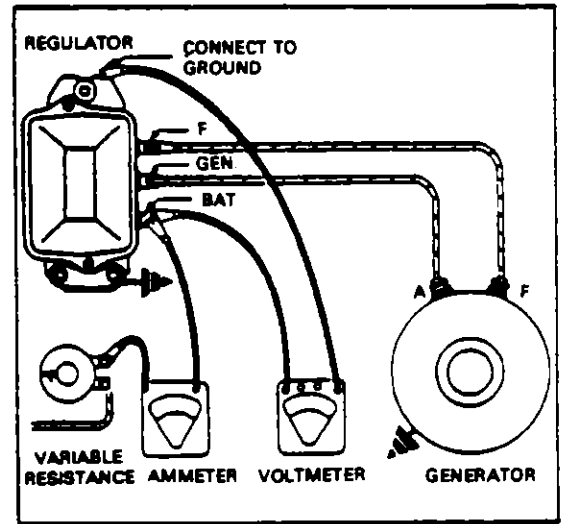

FIGURE 9-8. CHECKING VOLTAGE SETTING, VARIABLE RESISTANCE METHOD
a. Connect ammeter and  $\frac{1}{4}$  ohm variable resistor in series with the battery as shown in Figure 9-8.